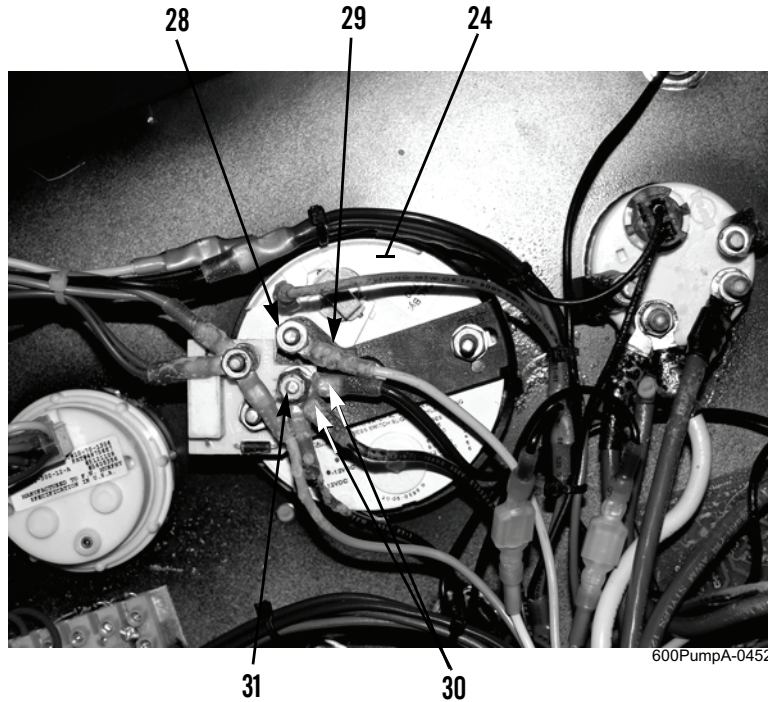
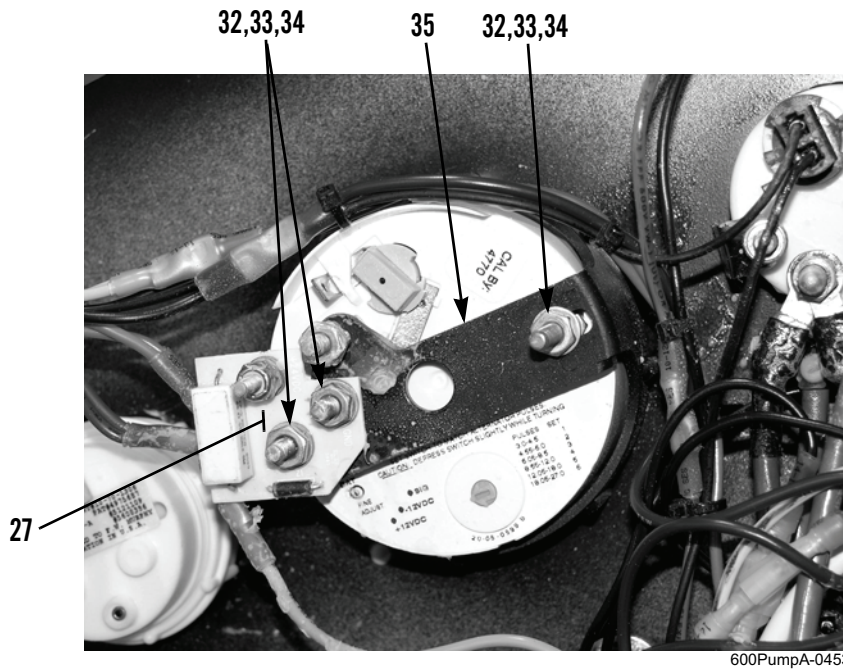
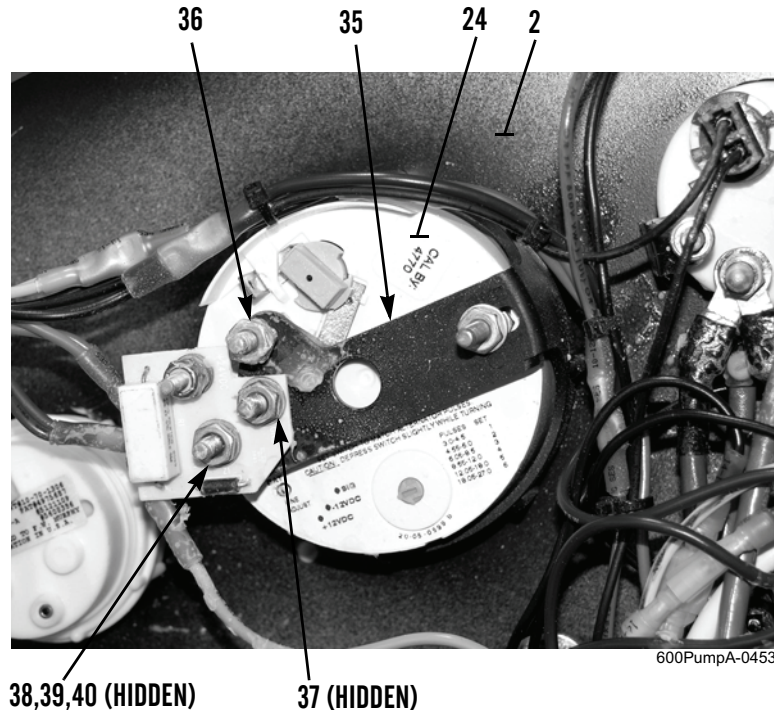

Figure 10. Tachometer Wires.
Figure 11. Tachometer Mounting.
Figure 12. Tachometer Mounting.
3. Remove nut (Figure 10, Item 28) and wire (Figure 10, Item 29) from tachometer (Figure 10, Item 24).
4. Remove locknut (Figure 10, Item 31) and three wires (Figure 10, Item 30) from tachometer (Figure 10, Item 24). Discard locknut.
5. Remove three nuts (Figure 11, Item 32), lockwashers (Figure 11, Item 33), and washers (Figure 11, Item 34) from meter voltage regulator (Figure 11, Item 27) and tachometer bracket (Figure 11, Item 35). Remove meter voltage regulator. Discard lockwashers.
6. Remove two nuts (Figure 12, Item 36) and nut (Figure 12, Item 37).
7. Remove nut (Figure 12, Item 38), lockwasher (Figure 12, Item 39), washer (Figure 12, Item 40), tachometer bracket (Figure 12, Item 35), and tachometer (Figure 12, Item 24) from panel (Figure 12, Item 2). Discard lockwashers.
1. Install tachometer (Figure 12, Item 24) and tachometer bracket (Figure 12, Item 35) on panel (Figure 12, Item 2) and secure with washer (Figure 12, Item 40), new lockwasher (Figure 12, Item 39), and nut (Figure 12, Item 38).
2. Install nut (Figure 12, Item 37) and two nuts (Figure 12, Item 36).
3. Position meter voltage regulator (Figure 11, Item 27) on tachometer bracket (Figure 11, Item 35) and install three washers (Figure 12, Item 34), new lockwashers (Figure 11, Item 33), and nuts (Figure 11, Item 32).
4. Install three wires (Figure 11, Item 30) on tachometer (Figure 12, Item 24) with new locknut (Figure 12, Item 31).
5. Install wire (Figure 10, Item 29) on tachometer (Figure 12, Item 24) with nut (Figure 10, Item 28).